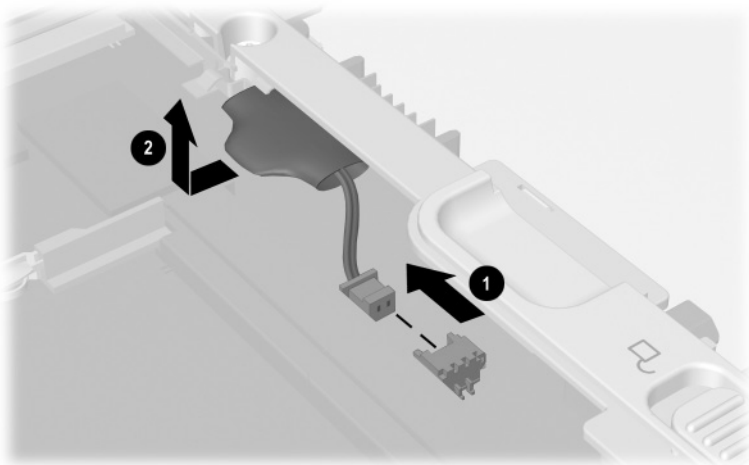

Figure 5-8. Removing the RTC Battery
4. Disconnect the RTC battery cable from the system board ❶ (Figure 5-8).
5. Remove the RTC battery from the tablet ❷.